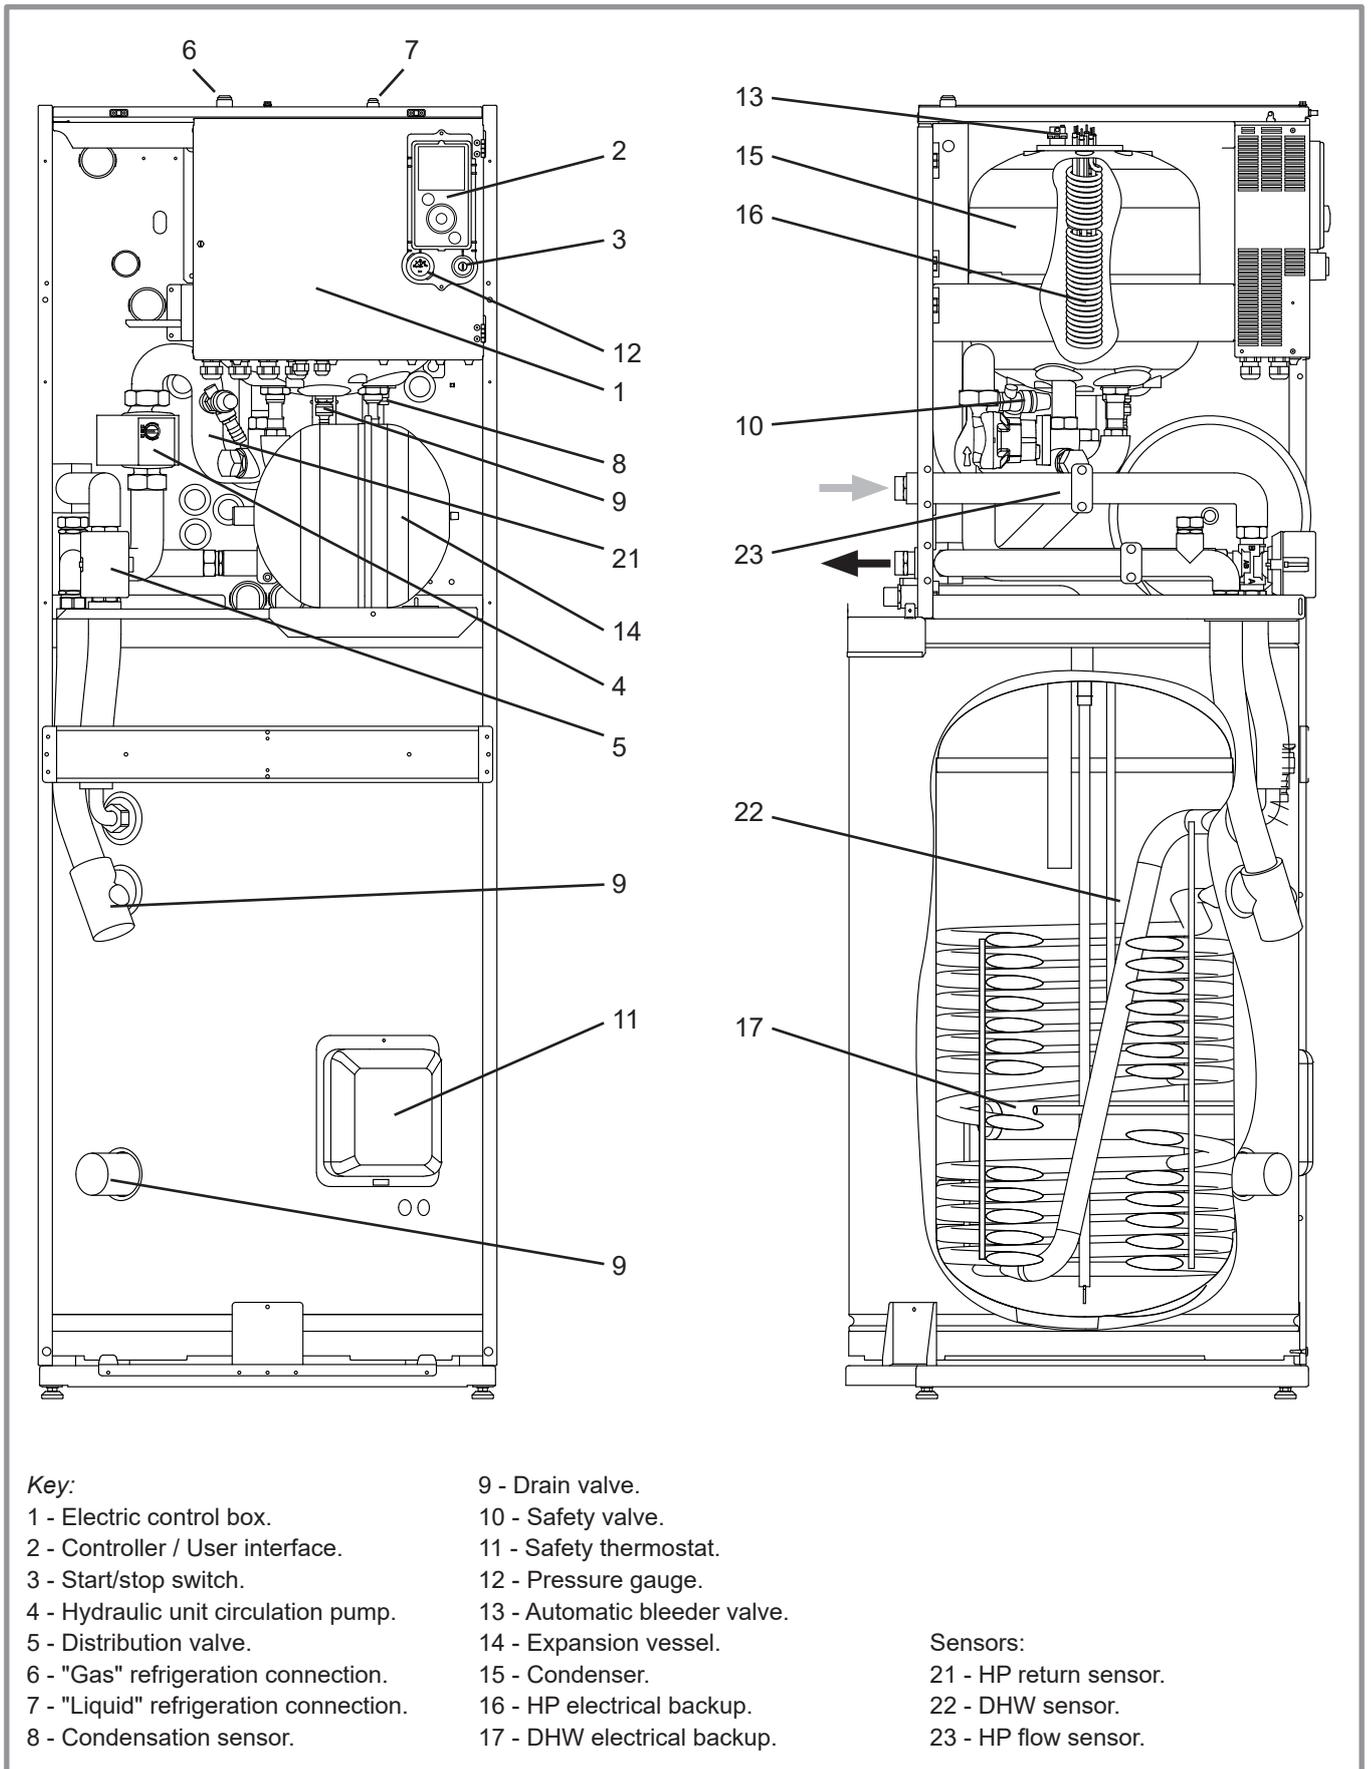

figure 9 - Hydraulic unit components
- In the condenser (ref. **15**, figure 9):